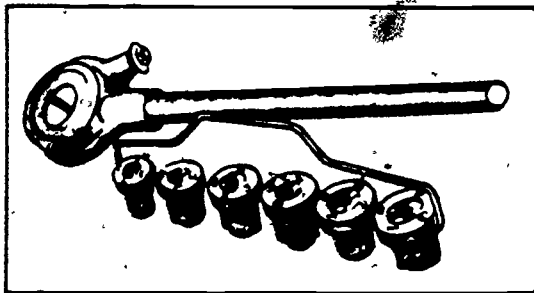

Figure 3-33. Die set.
*Pipe dies.* Pipe dies are used to cut threads on pipes. They vary in size. The die set, illustrated in figure 3-33, is used to cut threads from 1/8 to 2 inches.